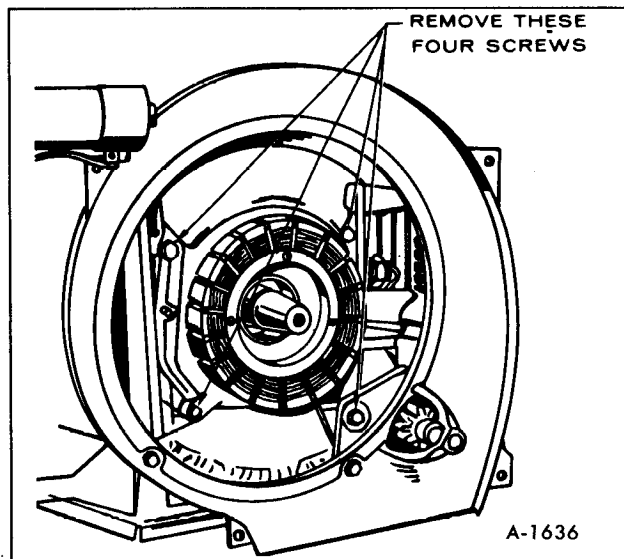

Figure 47—Removing Backing Plate
5. Remove blower scroll backing plate (two screws on bottom – two on gear cover) as shown in Figure 47.